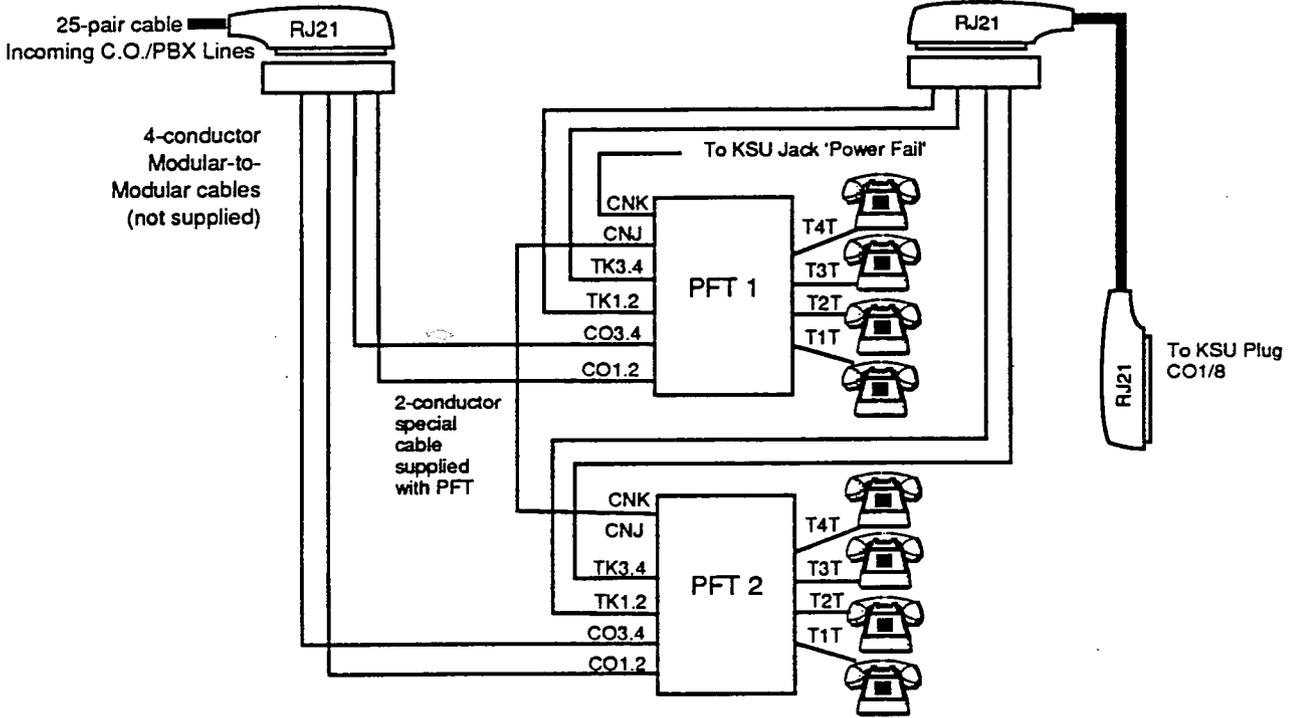

Figure 6-12 Power Fail Transfer Installation (Panther II 820 System)
6.13 A Power Fail Transfer unit transfers up to four outside lines to four standard telephone sets (2500 or single line sets) in the event of a power failure at the KSU. A number of Power Fail Transfer units can be cascaded to allow the maximum number of C.O. lines to be switched to the corresponding number of standard telephone sets; i.e., two Power Fail Transfer units would be required to switch the eight C.O. lines of a Panther II 820 system; three Power Fail Transfer units would be required to switch the 10 C.O. lines of a Panther II 1032 system, and six Power Fail Transfer units would be required to switch the 20 C.O. lines of a Panther II 2064 system. (Three units maximum per KSU). This is shown in Figures 6-12 through 6-14 respectively.
6.14 The incoming telephone lines, and the KSU are connected to the Power Fail Transfer unit via two 50-pin-to-Modular Adapters (MOD V SM 6/2). To install one or more Power Fail Transfer units, refer to Figures 6-12 through 6-14 and complete the following instructions:
- Step 5. Using modular cords, complete the connections shown in Figures 6-12 to Figure 6-14.